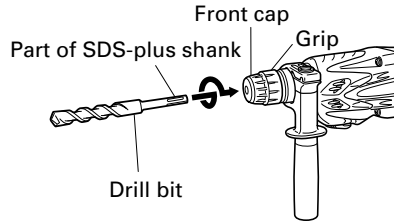
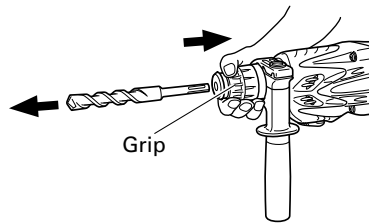

Fig. 2
Fig. 3
## 6. Mounting the drill bit (Fig. 2)
- (1) Clean the shank portion of the drill bit.
- (2) Insert the drill bit in a twisting manner into the tool holder until it latches itself. (Fig. 2)
- (3) Check the latching by pulling on the drill bit.
- (4) To remove the drill bit, fully pull the grip in the direction of the arrow and pull out the drill bit. (Fig. 3)